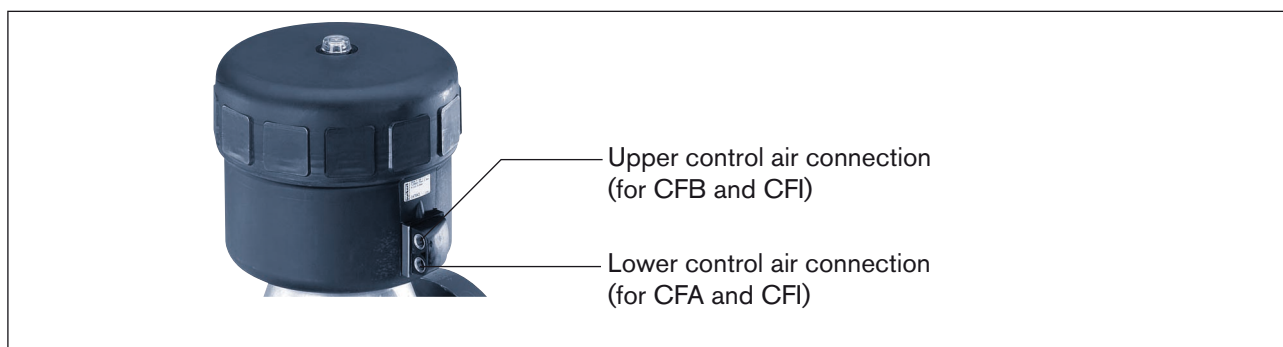

Figure 18: Control air connection
- Pressurize lower control air connection with compressed air (value as indicated on the rating plate) (see picture below *Figure 18:Control air connection*).